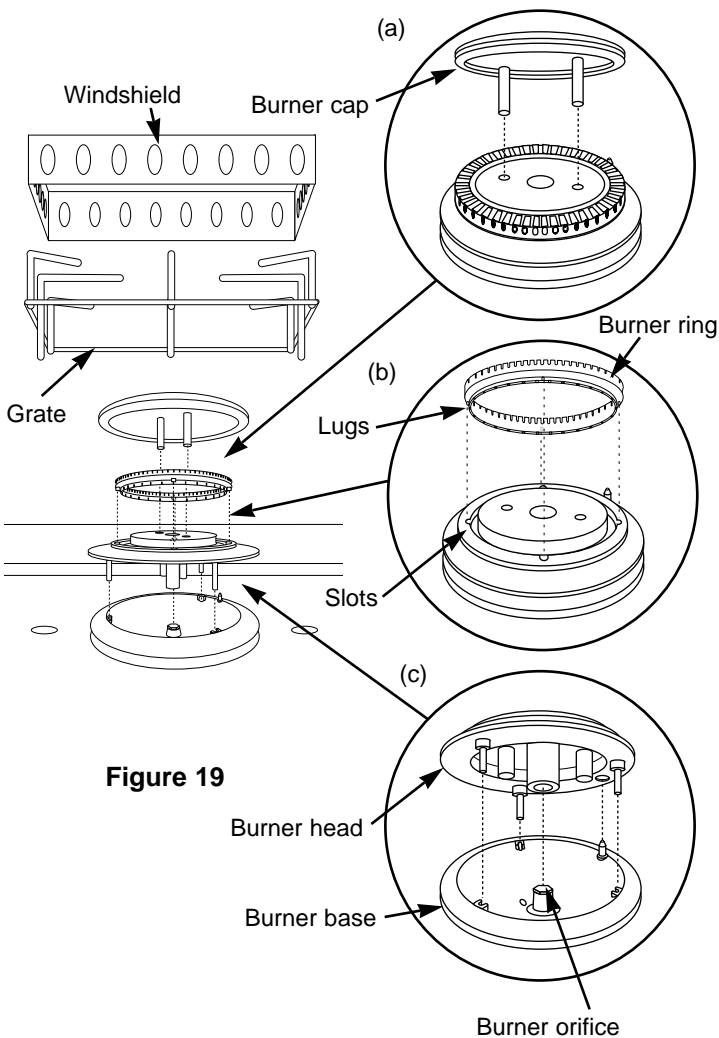

Figure 19
Remove the windshield and grate. Remove the burner cap. Figure 19 (a). Clean with soap and water. Soak if necessary.
Remove the burner ring. Figure 19 (b). Clean with soap and water. Soak if necessary.
**⚠CAUTION: Do not enlarge the slots in the burner ring. Only clean with a cloth and soap and water.** Remove the burner head. Figure 19 (c). Clean with soap and water. Soak if necessary.
Insert the burner head into the burner base. Figure 19 (c). There is a hole in the burner head for the igniter electrode.
Set the burner ring onto the burner head. Rotate the burner ring until the four lugs on the burner ring are seated in the four slots on the burner head. Figure 19 (b).
Install the burner cap. Figure 19 (a). Install the grate and the windshield.